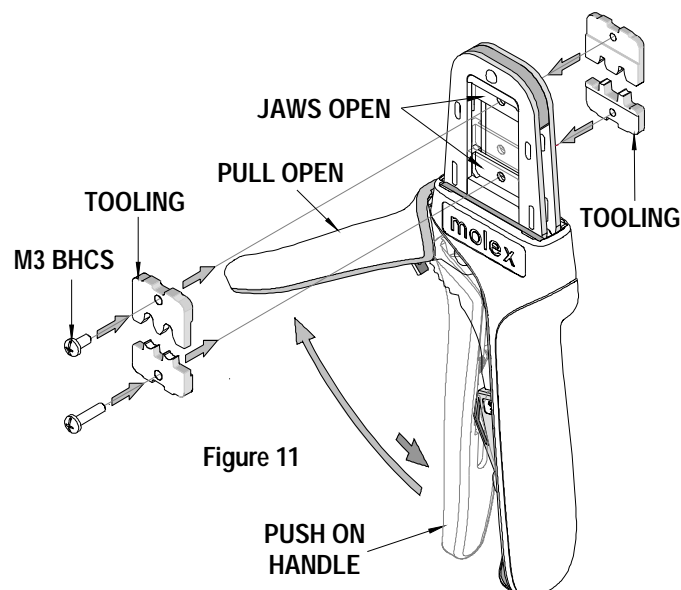

Figure 11
3. Flip the upper tooling to the opposite side and replace the M3 BHCS. Make sure the small markings on the front and back of the hand tool frame match up and are on the outside of the hand tool frame. See Figure 11 and 12.